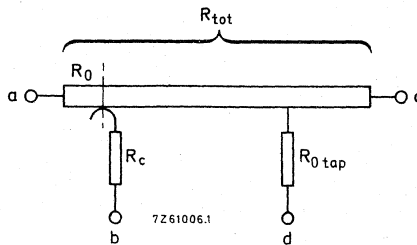

Fig. 3 Diagram of potentiometer; spindle in fully counter-clockwise position.
**Terminal resistance** – Minimum resistance that can be obtained between either end terminals (a or c) and the slider terminal b (see Fig. 3). Where there is no measurable change of resistance between the end stop and the point where the minimum effective resistance is observed, the terminal resistance and the minimum effective resistance become the same.
**Maximum attenuation** – Maximum adjustable attenuation when the potentiometer is used as an attenuator (see Fig. 3).